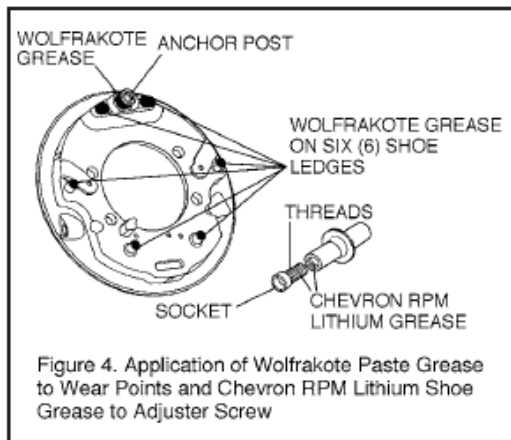

Figure 4. Application of Wolfrakote Paste Grease to Wear Points and Chevron RPM Lithium Shoe Grease to Adjuster Screw
- (1) Clean backing plate and adjuster screw assembly. Remove old grease from shoe contact points and adjuster threads as well as debris and corrosion that could contaminate linings or interfere with proper brake operation.
- (2) Apply a light film of Wolfrakote paste ledge grease to the six (6) backing plate shoe ledges and one (1) anchor post as shown in Figure 4.
- (3) Apply Chevron RPM heavy duty, lithium complex, molybdenum disulfide, extreme pressure grease, or equivalent, to the cam plate lugs where they contact the shoe ends, the end of the shoes that contact the cam lugs, and the brake lever.
- (4) Apply Chevron RPM heavy duty, lithium complex, molybdenum disulfide, extreme pressure grease to the threads of the adjuster screw, adjuster nut, and the socket ends of the adjuster nut and install the screw fully into the adjuster nut. Insure the screw moves in and out freely. If any damage to the threads prohibits free movement, or if the starwheel is damaged, replace adjuster assembly. See Figure 4.